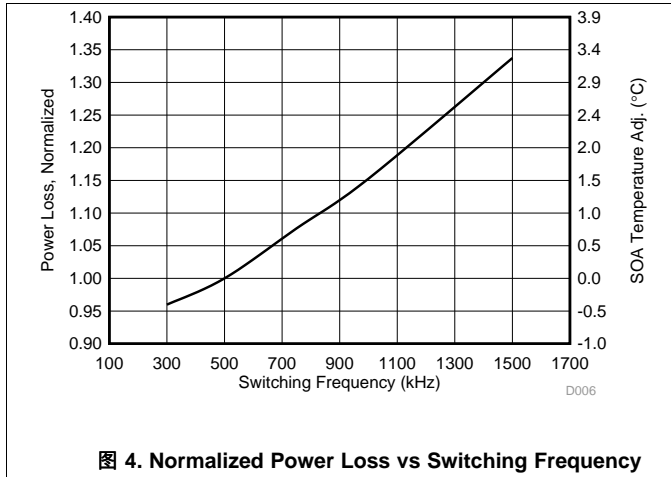

图 4. Normalized Power Loss vs Switching Frequency
- Normalized power loss for switching frequency ≈ 1.08 (图 4)
- SOA adjustment for switching frequency $\approx 0.75^\circ\text{C}$ (图 4)